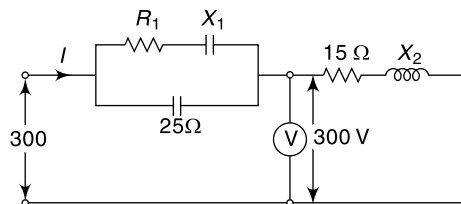

Fig. 5.57 Circuit diagram for Ex. 5.70
5.70 The total current I in Fig. 5.57 is 15 A at lagging p.f. and the power consumed is 4 kW. The voltmeter reading is 300 V. Find the values of R_1 , X_1 , and X_2 .